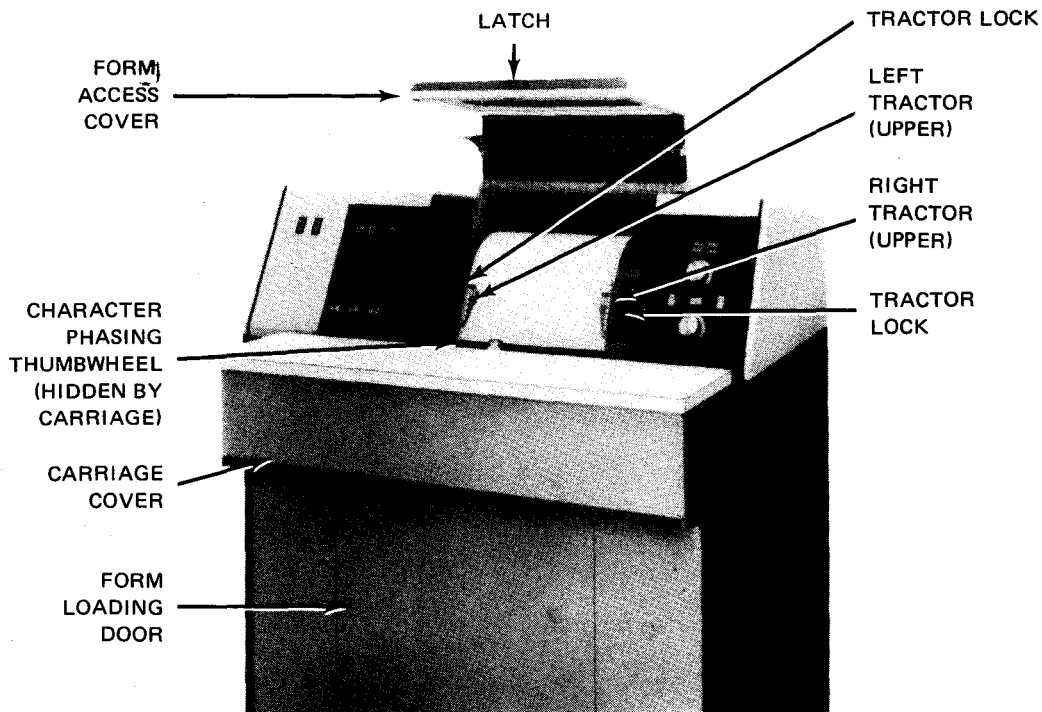

Figure 5-11. Form Access Cover Open and Carriage Out
3. Release latch and raise form access cover (Figure 5-11).
5. Turn character phasing thumbwheel (Figures 5-11 and 5-14) in direction required to correct character phasing: